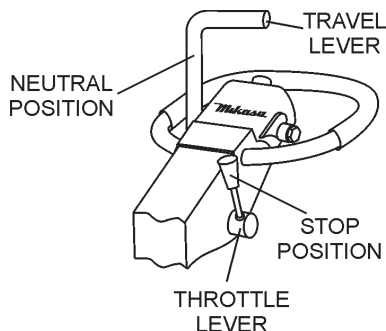

Figure 22. Throttle Lever (Stop)
3. Place the throttle lever in the **STOP** position (Figure 22) to stop the engine.